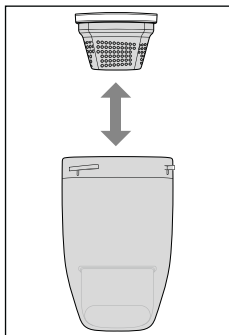

Fig. 8
3. Grip the dust filter **5** with your thumb and index finger and pull it (together with the filter housing **4**) out of the dirt container **3** (see Fig. 8).
5. Reinsert the dust filter **5** together with the filter housing **4** into the dirt container **3** (see Fig. 8).